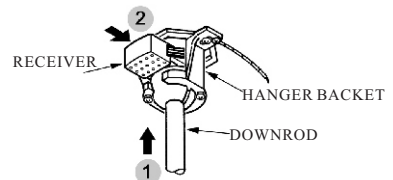

FIG.6
2. Carefully lift the fan and seat the down rod ball assembly on the hanger bracket. Be sure the groove in the ball is lined up with tab on the hanger bracket. Do not pinch wires between the ball and down rod assembly and hanger bracket (see Fig.6)